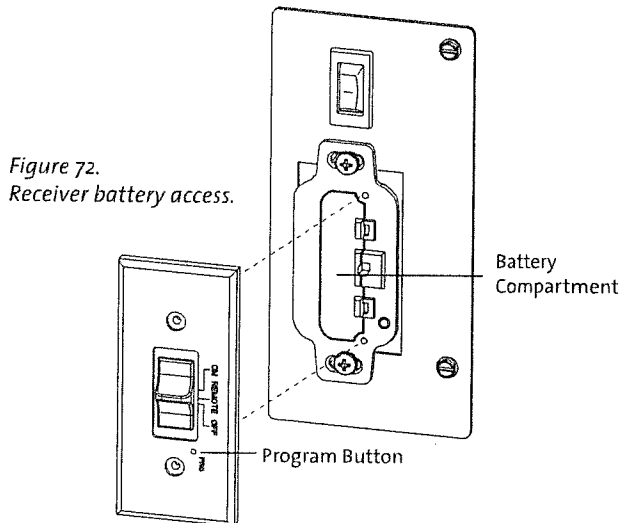

Figure 72.
2. Push the slider switch into the OFF position. Remove the Receiver cover plate screws and pry the cover plate with slider switch off of the battery box. See fig. 72.